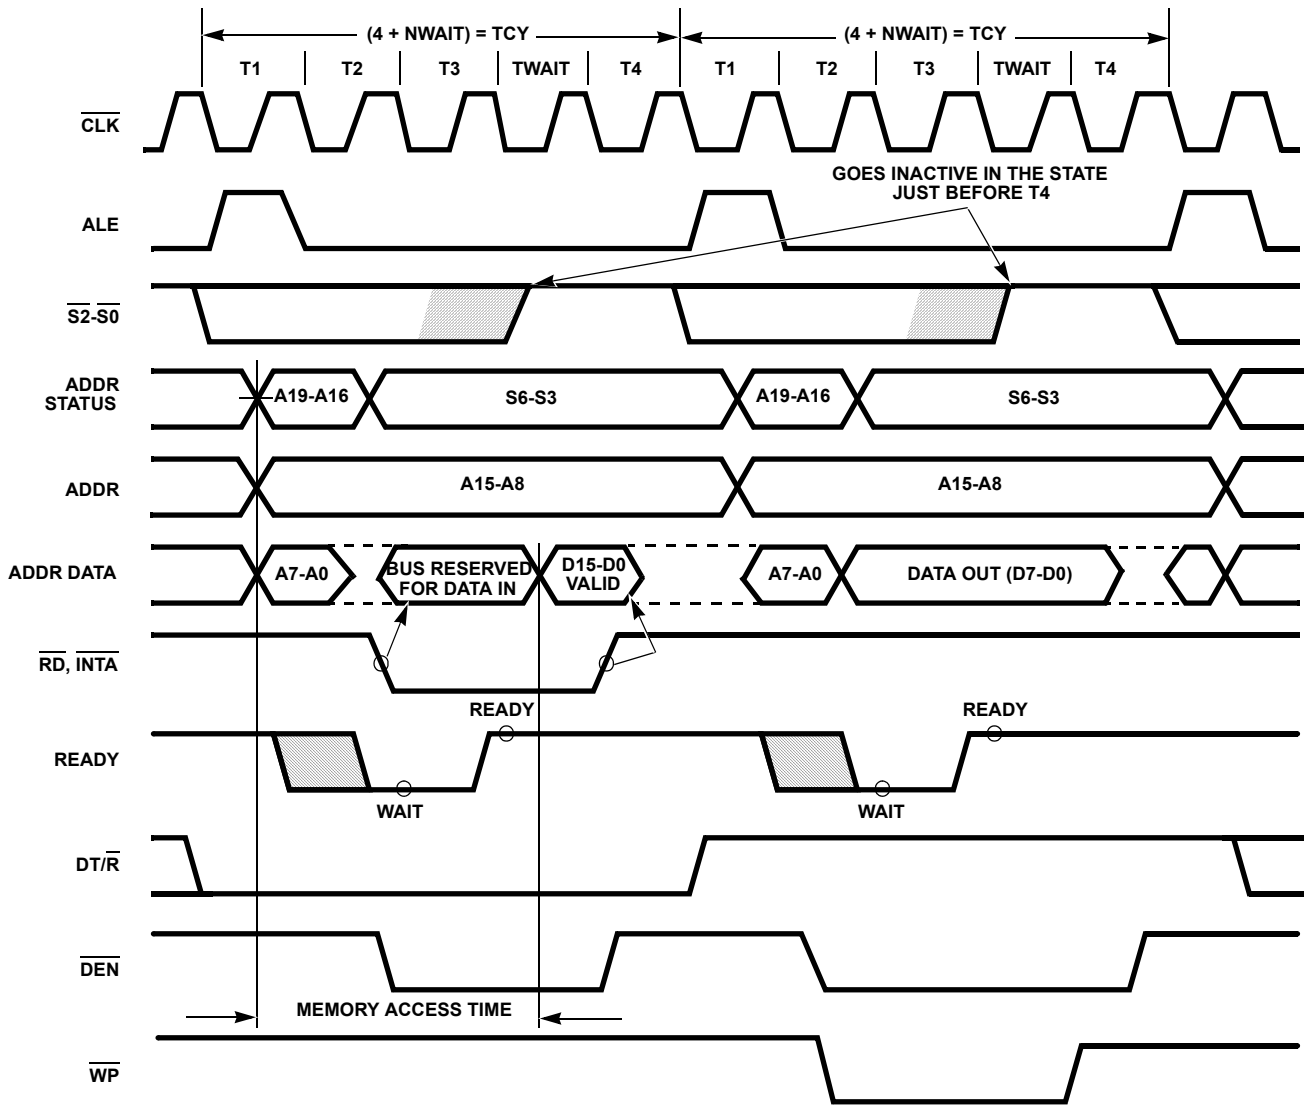

FIGURE 5. BASIC SYSTEM TIMING
Each processor bus cycle consists of at least four CLK cycles. These are referred to as T1, T2, T3, and T4, as shown in Figure 5 on page 12. The address is emitted from the processor during T1 and data transfer occurs on the bus during T3 and T4. T2 is used primarily for changing the direction of the bus during read operations. In the event that a "Not Ready" indication is given by the addressed device, "wait" states (TW) are inserted between T3 and T4. Each inserted "wait" state is of the same duration as a
The read cycle begins in T1 with the assertion of the address latch enable (ALE) signal (see Figure 5 on page 12). The trailing (low-going) edge of this signal is used to latch the address information, which is valid on the address data bus (AD0-AD7) at this time, into the 82C82/82C83 latch. Address lines A8 through A15 do not need to be latched because they remain valid throughout the bus cycle. From T1 to T4 the  $\text{IO}/\overline{\text{M}}$  signal indicates a memory or I/O operation. At T2 the address is removed from the address data bus and the bus is held at the last valid logic state by internal bus-hold devices. The read control signal is also asserted at T2. The read ( $\overline{\text{RD}}$ ) signal causes the addressed device to enable its data bus drivers to the local bus. Some time later, valid data will be available on the bus and the addressed device will drive the READY line HIGH. When the processor returns the read signal to a HIGH level, the addressed device will again three-state its bus drivers. If a transceiver (82C86/82C87) is required to buffer the local bus, signals  $\text{DT}/\overline{\text{R}}$  and  $\overline{\text{DEN}}$  are provided by the 80C88.